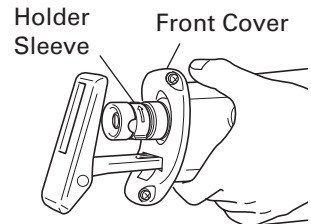

Fig. 2
(1) Turn on and off the switching trigger several times so that the holder sleeve can jump out of the front cover completely. Thereafter, turn off the switch and unplug the power cord. (Fig. 2)
- (1) Turn on and off the switching trigger several times so that the holder sleeve can jump out of the front cover completely. Thereafter, turn off the switch and unplug the power cord. (Fig. 2)